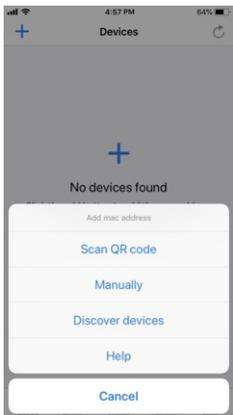
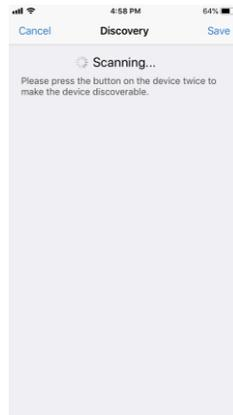

Figure 4
Figure 5
4. Run H2A APP, tap add button "+" on the APP to add device, then choose "Discover devices" to discover device, then **short press the "Reset" button on the dimmer twice** (or **reset power of the dimmer twice continuously**) to set the device into pairing to APP mode. (As shown in **Figure 3 & Figure 4 & Figure 5**)